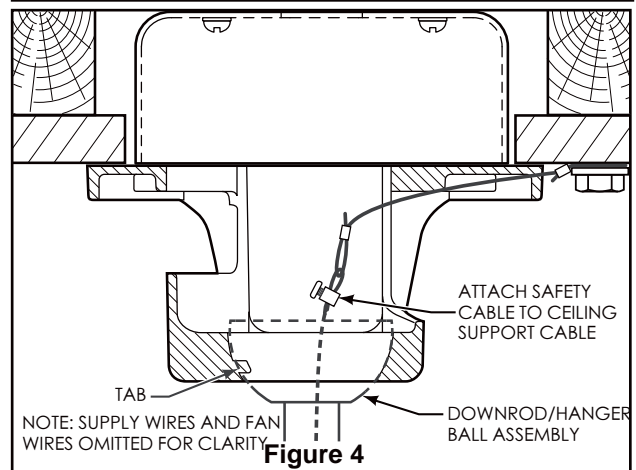

Figure 4
- 4. Slide downrod into the downrod support on top of the motor. Install the clevis pin by aligning the holes in the downrod support with holes in the downrod. Secure clevis pin with hairpin clip. Install the two set screws with nuts in the downrod support. Securely tighten the set screws with screwdriver then fully tighten the nuts by hex wrench. (Figure 4)
4. Carefully lift the fan and seat the downrod/hanger ball assembly on the hanger bracket that was just attached to the ceiling joist. Be sure the groove in the ball is lined up with tab on the hanger bracket. (Figure 4)
5. Attach the safety cable to ceiling support cable. Slide cable clamp onto safety cable (from fan). Place the end of cable through the loop of ceiling support cable. Pull as much cable through loop as possible. Feed end of cable into clamp hole and firmly tighten screw (Figure 4). Cut off excess safety cable.
3. After connections have been made, put the white and green leads to one side and the black leads towards the other side. The wires should be spread apart with the grounded conductor and the equipment-grounding conductor on one side of the outlet box and the ungrounded conductor on the other side. (Figure 4).
- 4. **If installing the light kit, skip this step.** Assemble the light kit wire cover to the light kit using the previously removed screws and secure all three screws. (Figure 4)
**6. Remote Control Setting and Speed (RPM) Setting Process : (Figure 4)**